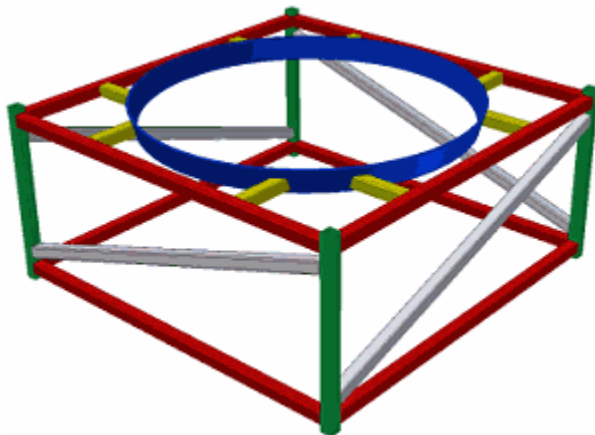

Figure 23: Completed assembly.
6. Return to the top-level assembly. Ground Frame.iam if you have not already done so. The assembly should match the one shown in Figure 23.
**Note:** Component colors have been changed for clarity in Figure 23.